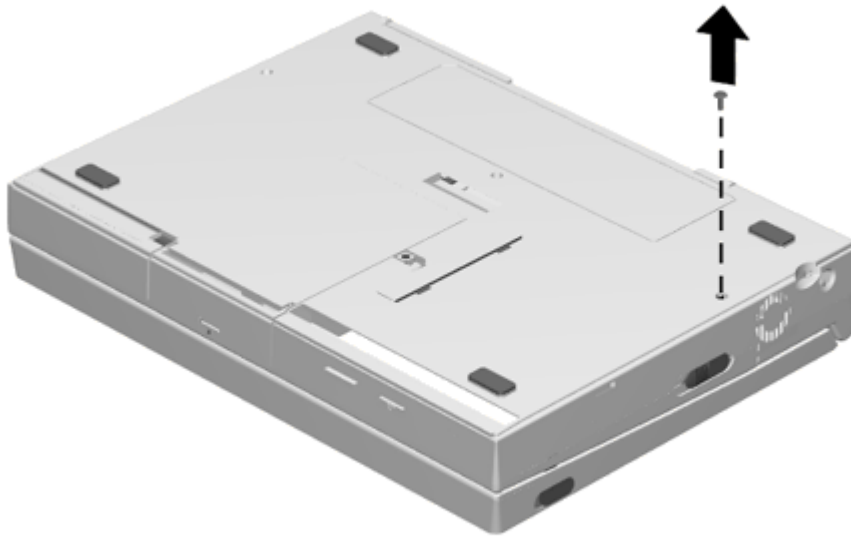

Figure 5-12. Removing the MultiBay Security Screw
1. Remove the MultiBay security screw (Figure 5-12).
3. Install the security screw (optional) as shown in Figure 5-12.